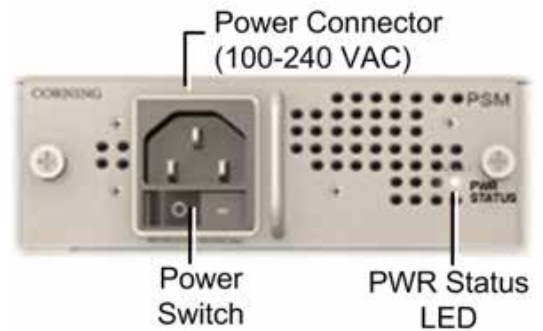

Figure 11: AC Power Supply Module LEDs
- For PSM-AC modules – connect supplied power cable (100-240 VAC) connector to the PSM input connector and to the AC outlet and switch on. See Figure 11.
- Step 2:** Verify that the Power Status LED on each PSM shows green. See Figure 11 for PSM-AC LED.